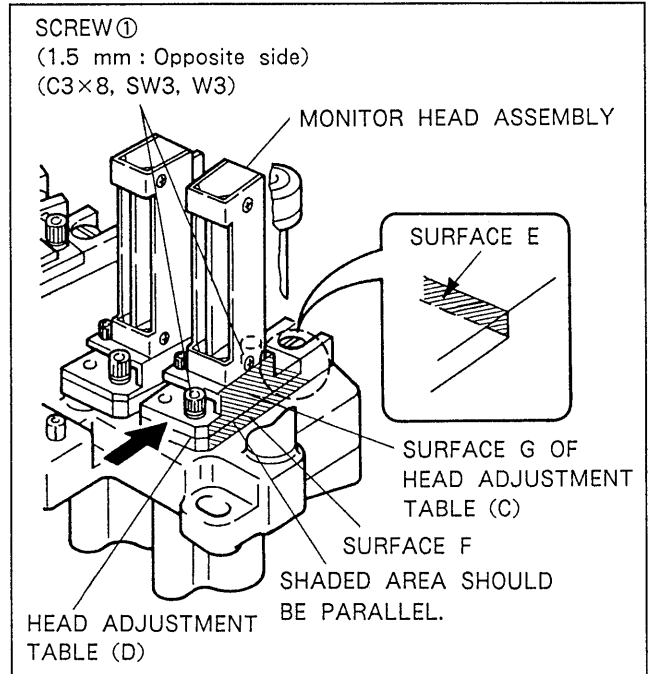

Fig. 6-17-5. Monitor Head Ass'y Mounting Position Adjustment
10. Temporarily secure the monitor head assembly to the head adjustment table (D) with two screw ① (including spring washer and flat washer) shown in Fig. 6-17-5.
11. Press the monitor head assembly against the surface E of the head adjustment table (D) and tighten two screw ① so that the surface G of the head adjustment table (C) becomes parallel with the surface F.